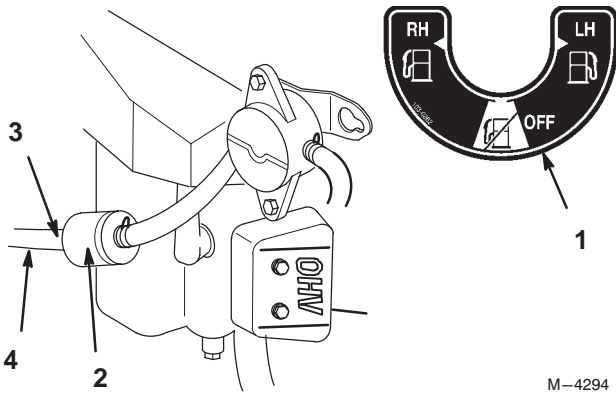

Figure 32
5. Install a new filter and move the hose clamps close to the filter (Fig. 32).
2. Close fuel shut-off valve (Fig. 32).
3. Loosen the hose clamp at the fuel filter and slide it up the fuel line away from the fuel filter (Fig. 32).
4. Pull the fuel line off fuel filter (Fig. 32).
5. Open fuel shut-off valve for left and right tanks. Allow gasoline to drain into a gas can or drain pan (Fig. 32).
6. Install the fuel line onto the fuel filter. Slide the hose clamp close to the fuel filter to secure the fuel line (Fig. 32).